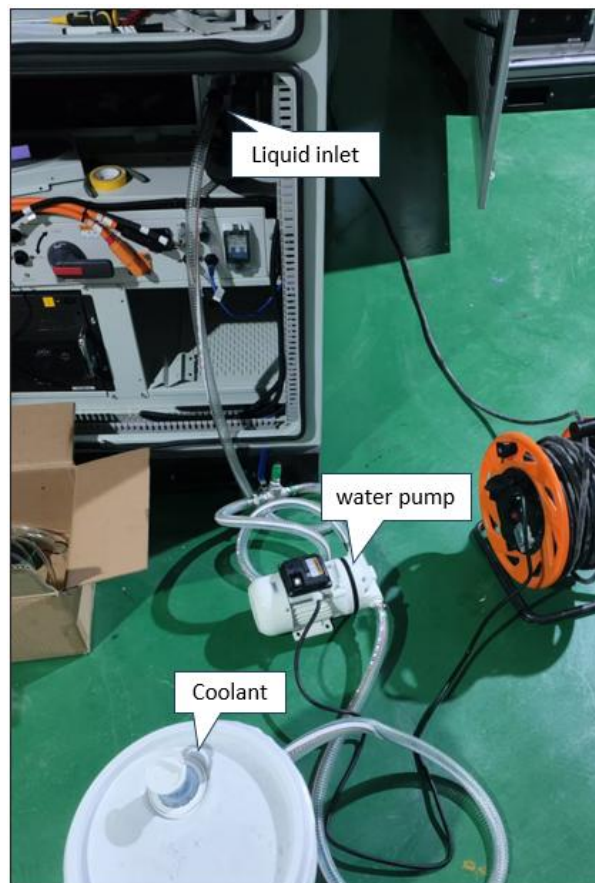

Figure 7.3 Liquid Injection Connection
Step 2: Remove the liquid injection port dust cap and connect the liquid injection pump, liquid coolant and liquid cooler injection port as shown in Figure 7.3 and 7.4.